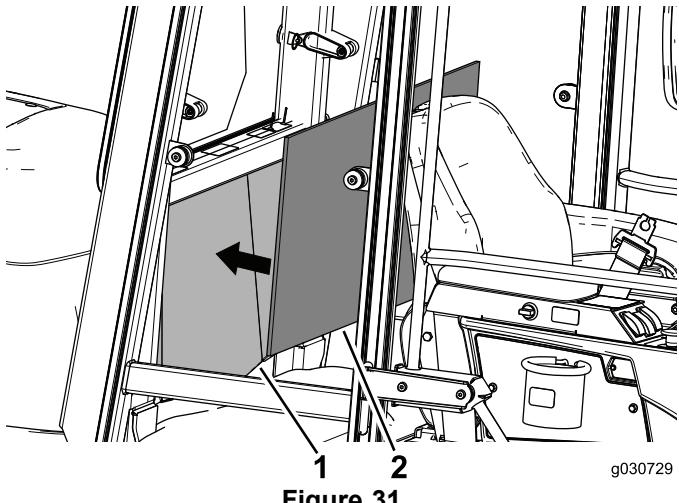

Figure 31
- Align the upholstery panel with the center of the back panel inside cab to verify its fit and placement (Figure 31).